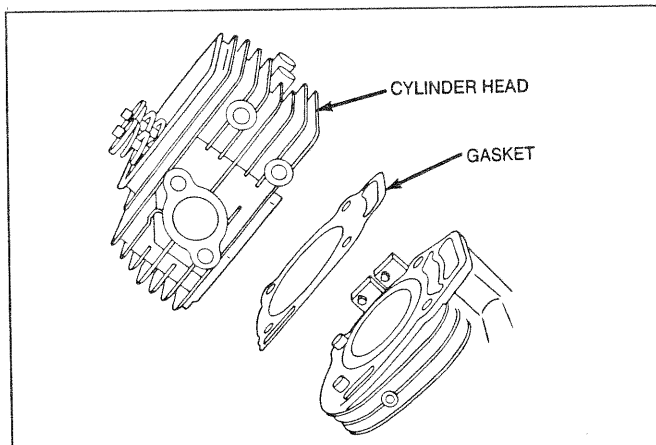

Figure 88. Cylinder Head Removal
- Remove cylinder head, valve assembly and gasket (Figure 88).